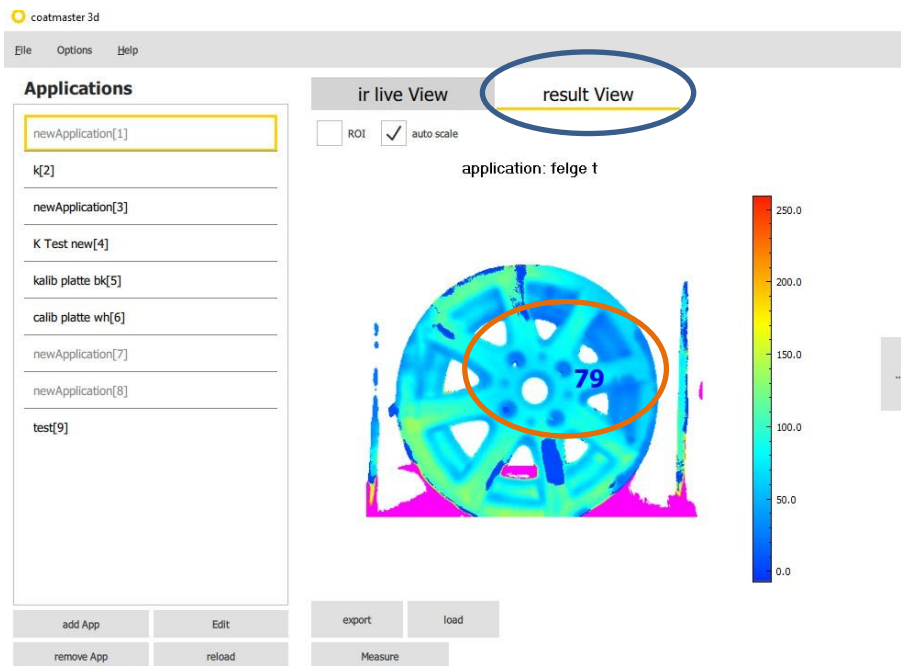

Figure 31 Measurement result
5. Copy an application by right-clicking on the application (see Figure 31). All parameters of the applications will be copied in a new one except the application number. This can be of practical interest if you want to delete all measurements done with an application but want to keep the application.